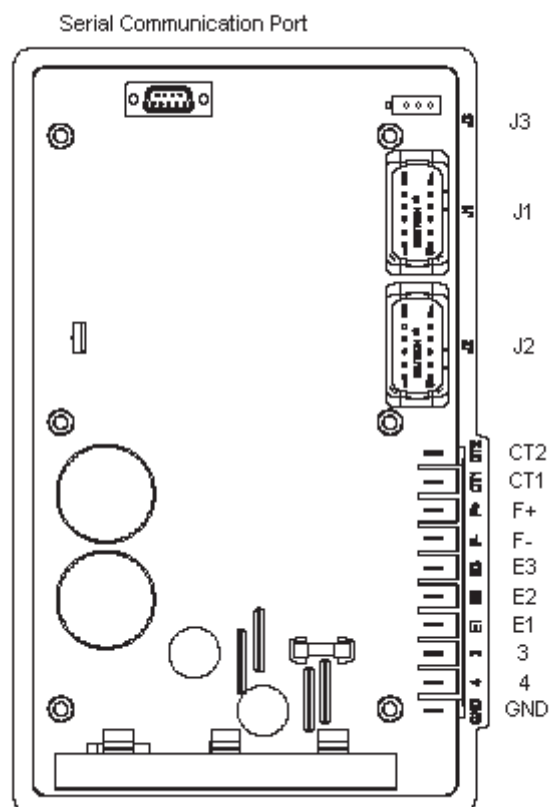
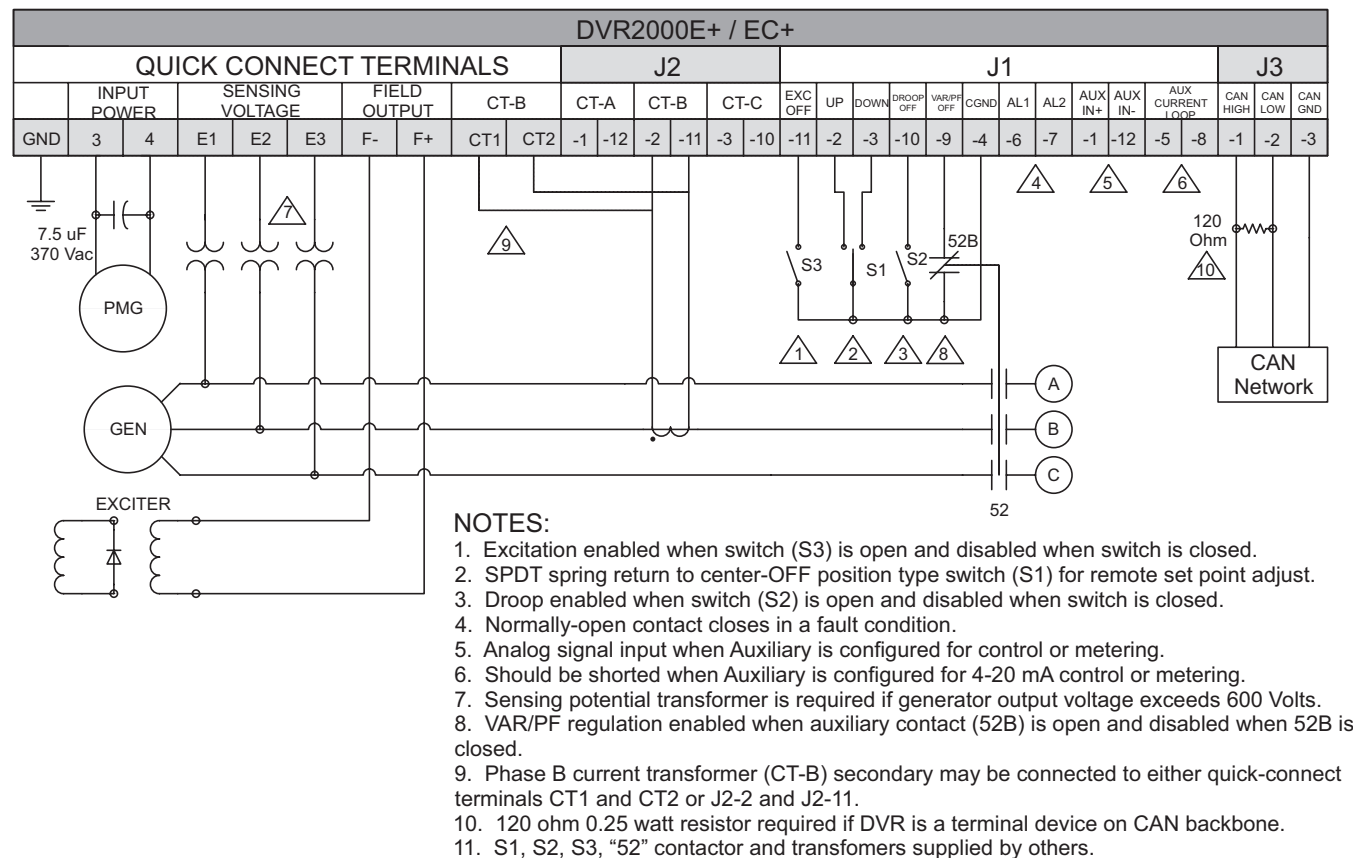

Figure 5-4. DVR® Rear Panel Connectors
Figure 5-9. Typical Connections with ABC Rotation, Three-Phase Voltage Sensing and Single-Phase Current Sensing
Figure 5-4 shows the quick disconnect terminal connections located on the rear panel of the DVR®.
Generator line current is stepped down through a user-supplied CT on Phase B. Secondary current (5A) from that transformer is applied to terminals labeled CT1 and CT2. Consult current transformer instruction manuals for CT polarity identification and install per Figure 5-9. See Figure 5-4 and Table 5-1 for terminal assignments.
- Figure 5-9 shows an application where the regulator is connected for three-phase voltage sensing and single-phase current sensing.